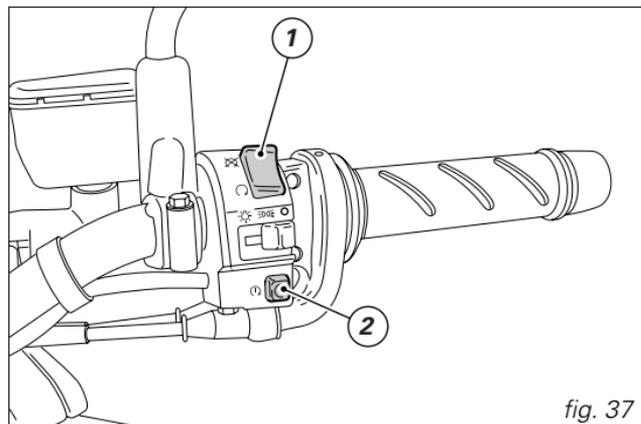

fig. 37
- 2) Check that the stop switch (1, fig. 37) is positioned to  (**RUN**), then press the starter button (2).